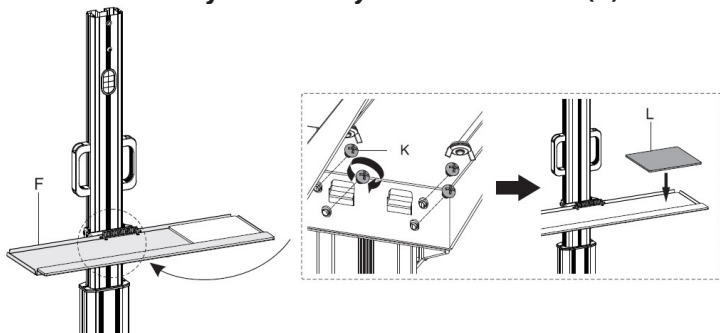

Figure 6
1. Hang the **Keyboard Platform (F)** onto the **Hooks**, located on the **Keyboard Platform Attachment Plate** on the **Column (B)**. (Figure 6)
2. Insert four **M6 x 6 mm Screws (K)** through the **Keyboard Platform (F)** and into the **Keyboard Platform Attachment Plate** then tighten, using a **Phillips Head Screwdriver**.
3. Insert the **Mouse Pad (L)** into the desired side of the **Keyboard Platform (F)**.